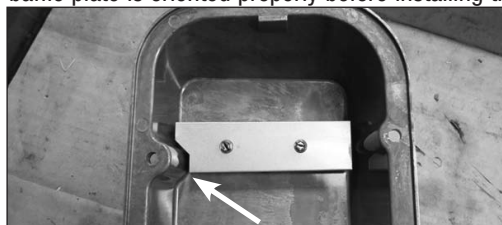

Fig 2. - Big Block Chevy Baffle Plate Installation
- Big Block Chevrolet:** Please make sure baffle plate is oriented properly before installing the baffle screws **(Fig 2).**